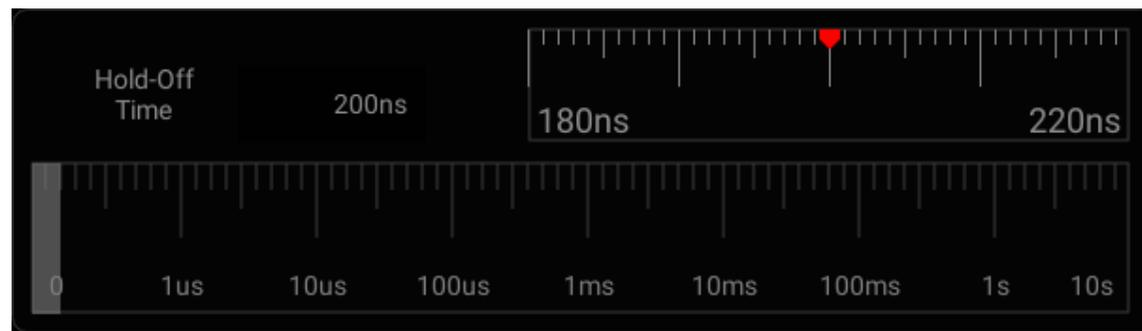

Figure 5-11 Trigger Hold-Off Time Set Interface
- 1) Tap “Trigger” on the main menu to open the trigger menu. Under “Common”, tap the box after “Rejection Time” to open the hold-off time adjustment interface. The trigger time is displayed on the upper left, the fine adjustment time scale is displayed on the upper right, and the coarse time scale is displayed below, as shown in Figure 5-11.